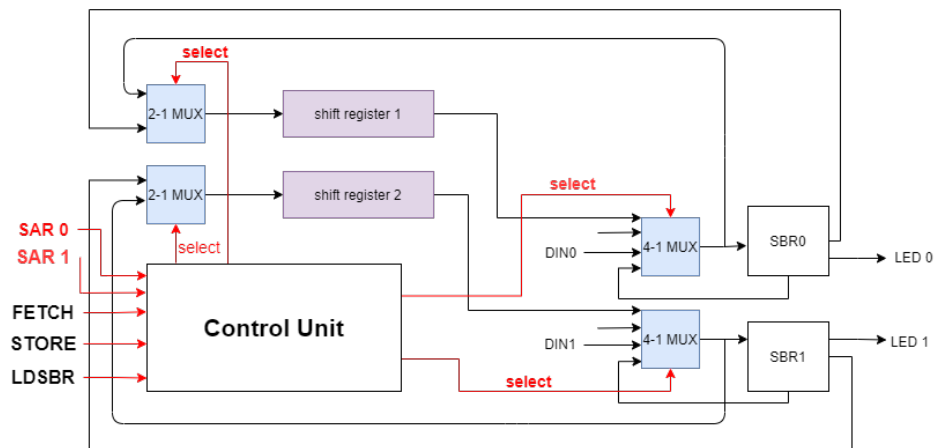

Figure 3: Block Diagram for circuit
5.2 Two block diagrams, one like figure 3 in the lab manual and one containing only the inside of the control unit.